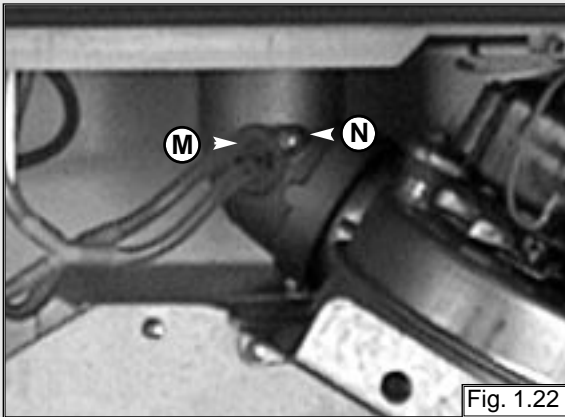

Fig. 1.22
1. Disconnect the silicone pipes "M" and remove the screw "N" (see fig. 1.22);